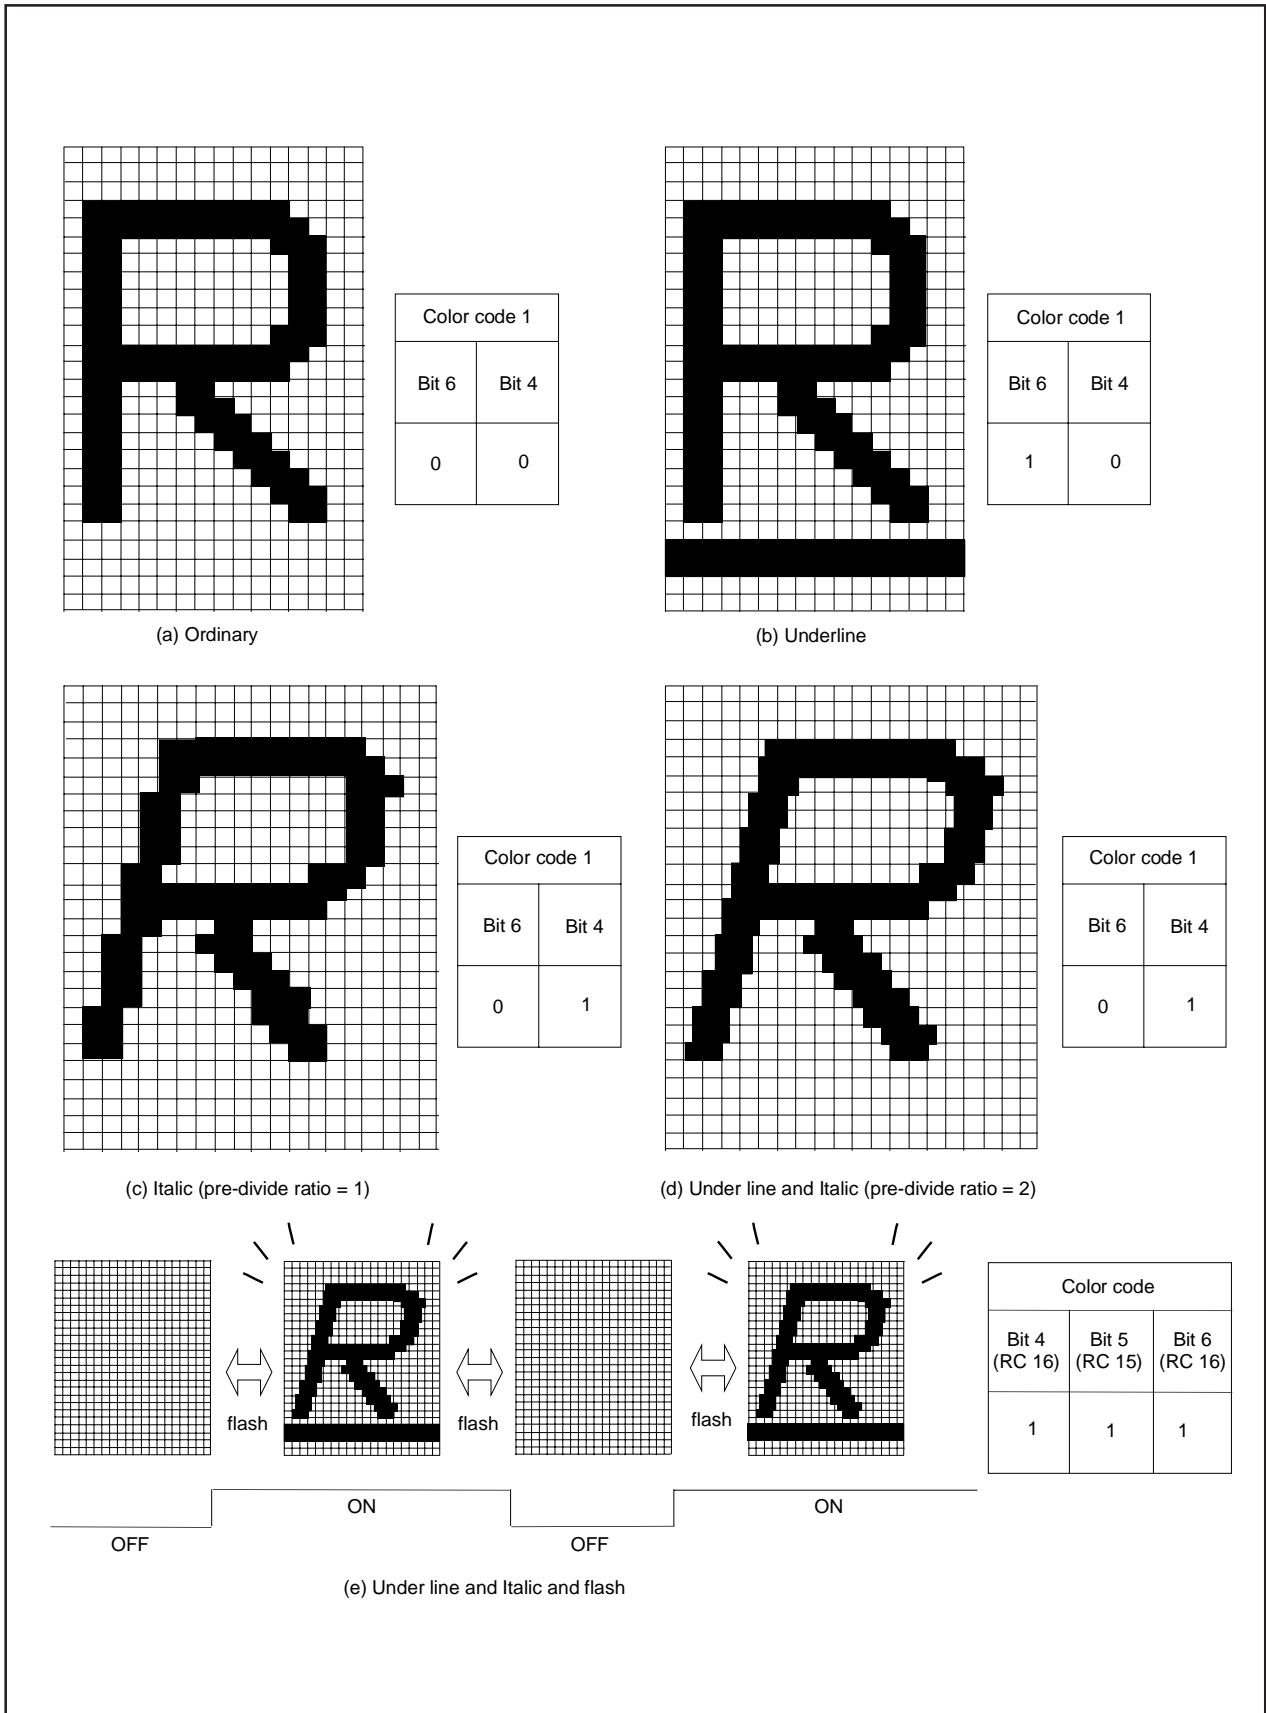

Figure 2.16.32 Example of attribute display (in CC mode)
- 4: When the pre-divide ratio = 1, the italic character with slant of 1 dot $\times 5$ steps is displayed ; when the pre-divide ratio = 2, the italic character with slant of 1/2 dot $\times 10$ steps is displayed (refer to Figure 2.16.32 (c), (d)). However, when displaying the italic character with the pre-divide ratio = 1, set the OSD clock frequency to 11 MHz to 14 MHz.